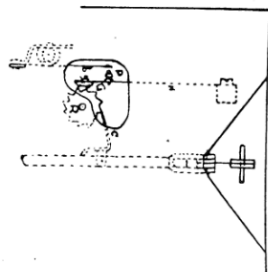

FIG. 5
- The ratchet wheel (R) and the grain (G) of the spring (R) must be in the positions shown in Figures 5 and 9.